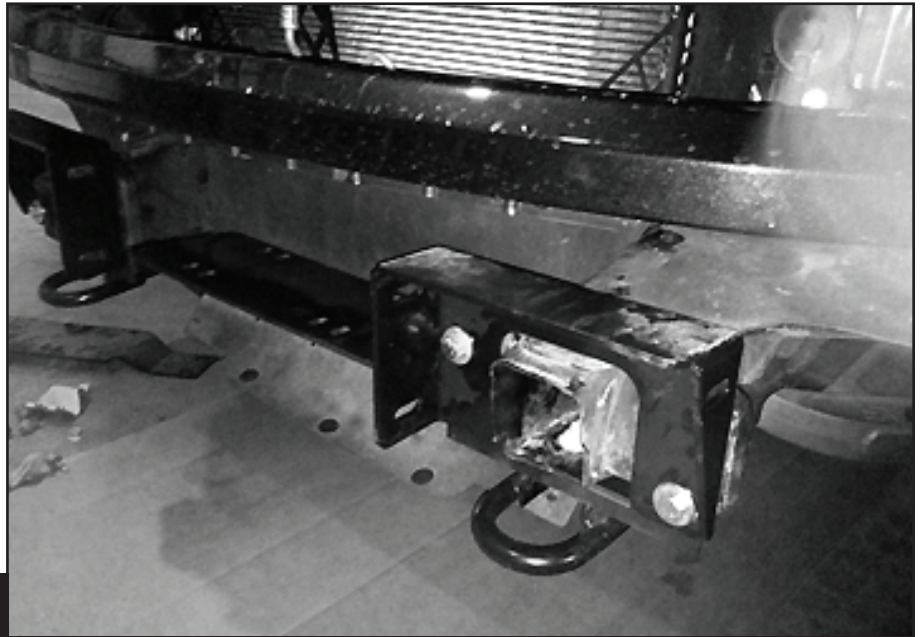

Fig 8
2. Attach the bumper brackets to the front of the frontside of the frame, using supplied ½" hardware. The bolts will go all the way through the winchplate. Tighten the bolts enough to allow the brackets to move left to right (**Fig 8**).